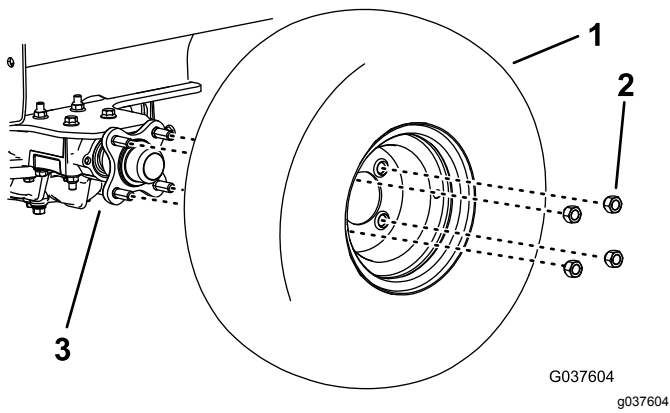

Figure 8
3. Remove the right tire (Figure 8).
13. Install the right tire, torque the lug nuts to 115 to 142 N·m (85 to 105 ft-lb), and lower the machine (Figure 8).